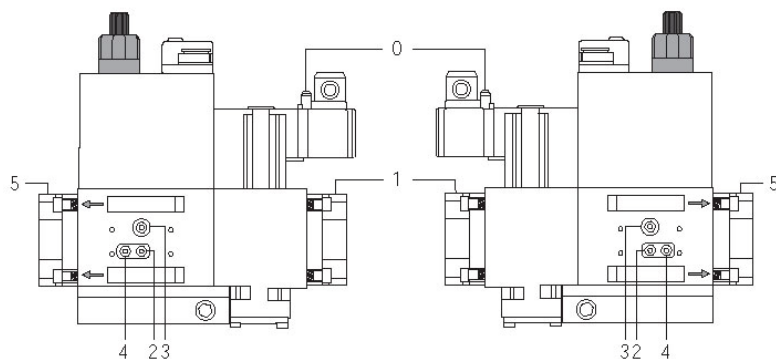
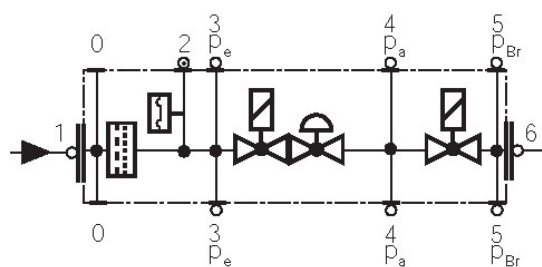

Fig. 29
Fig. 30
- Change the filter if the pressure difference between pressure connection 1 and 2 (Fig. 29-Fig. 30) $\Delta p > 10$ mbar.
- Change the filter if the pressure difference between pressure connection 1 and 2 (Fig. 29-Fig. 30) is twice as high compared to the last check.